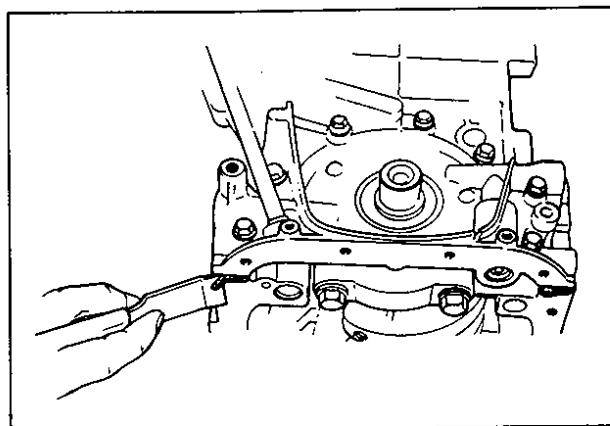

Fig. 6A-65 Cutting Edge of Gasket
- 6. Timing belt guide, key, and crank timing belt pulley. Refer to Fig. 6A-49 for proper installation of these parts.